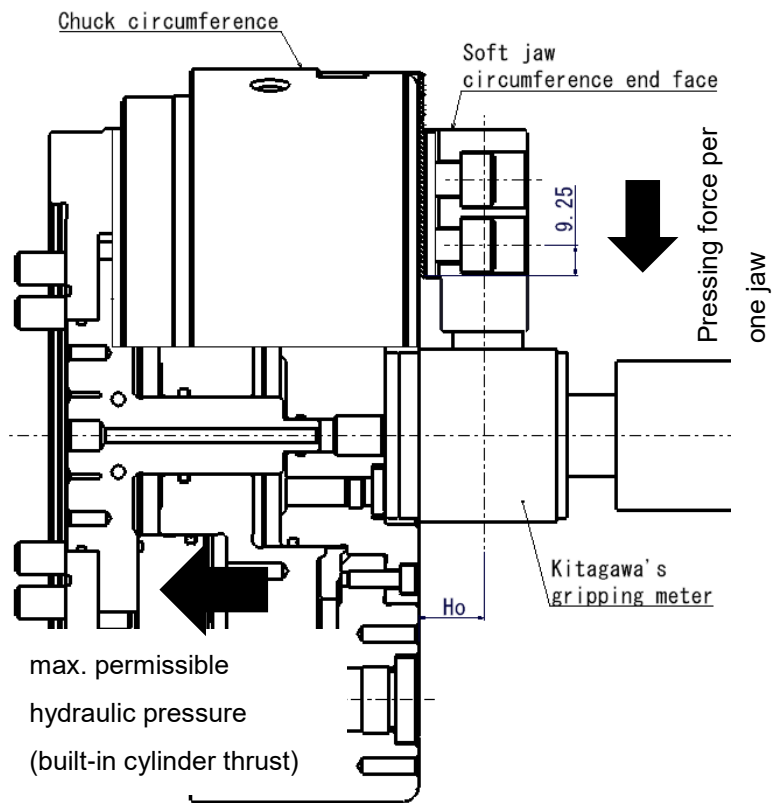

Figure 4 Gripping force measuring method
- The gripping force is measured by the Kitagawa's gripping meter, and the height of the gripping position is as shown in Figure 4. (Also refer to Table 6)